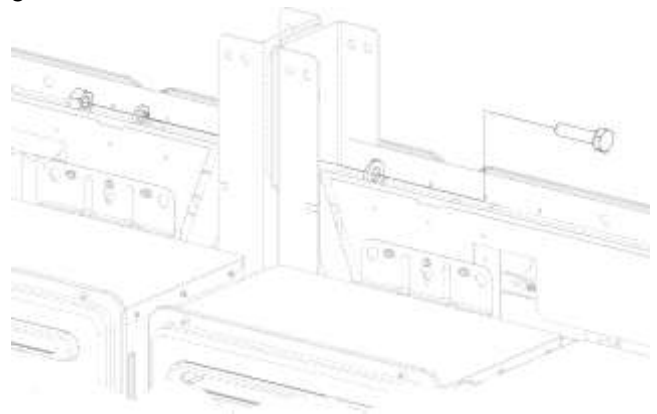

Figure 4
Do not discard the spacers located at the bottom of the frame. Refer to Fig. 4 and 5.
10. Ensure the frame is structurally sound and that it has been re-assembled exactly as it was received. Ensure all bolts, nuts, washers and spacers are installed in original locations and are tightened until the spring washer is fully compressed. Refer to Fig 4 & 5.